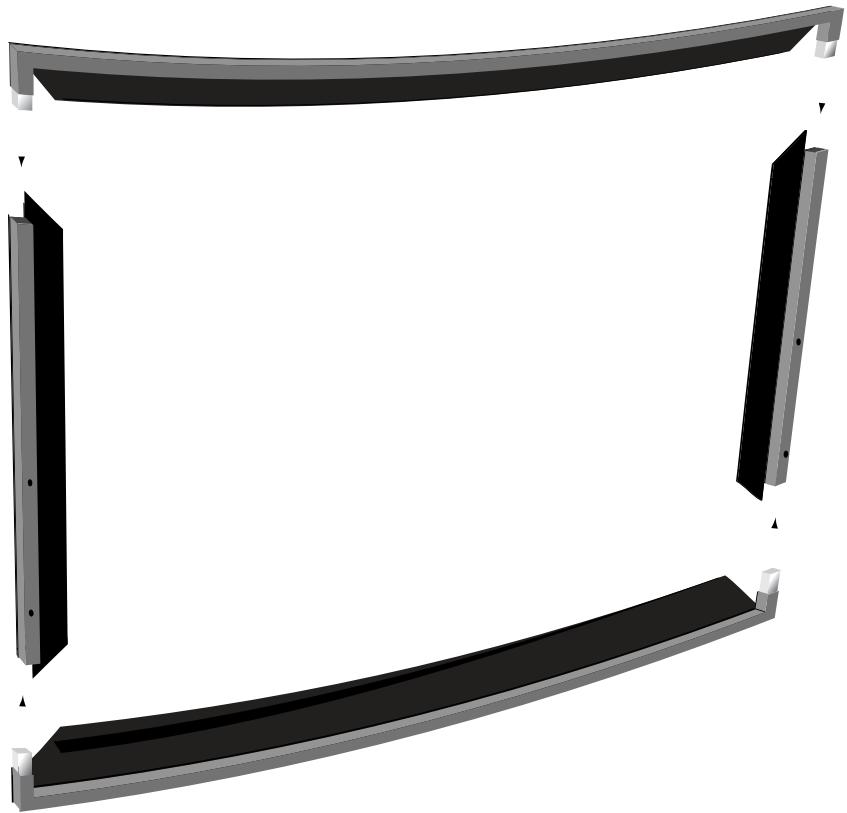

Figure 1: Assembling the frame
1. Connect the frame members by matching the colored, numbered dots on the ends of the frame pieces. Refer to Figure 1.
1. Assemble the frame. Refer to the section "Assembling the Frame" and Figure 1.